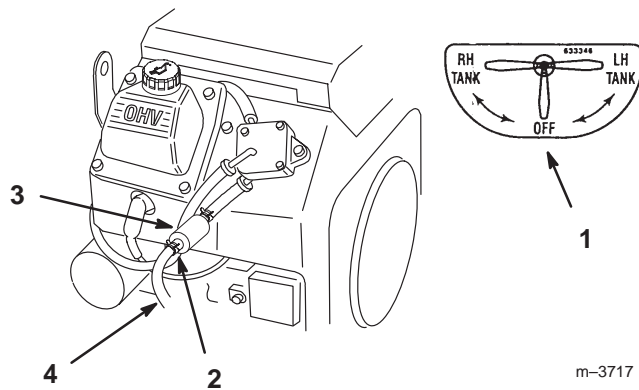

Figure 32
5. Install a new filter and move the hose clamps close to the filter (Fig. 32).
2. Close fuel shut-off valve (Fig. 32).
3. Loosen the hose clamp at the fuel filter and slide it up the fuel line away from the fuel filter (Fig. 32).
4. Pull the fuel line off fuel filter (Fig. 32). Open fuel shut-off valve and allow gasoline to drain into a gas can or drain pan.
5. Install the fuel line onto the fuel filter. Slide the hose clamp close to the fuel filter to secure the fuel line (Fig. 32).